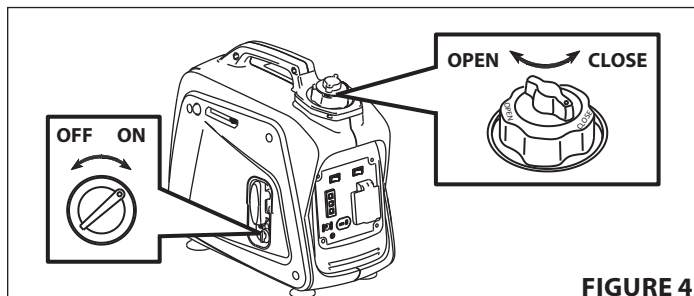

FIGURE 4
1. Turn the fuel tank cap air vent to the **OPEN** position. **SEE FIGURE 4**
2. Turn the fuel valve to the **ON** position. **SEE FIGURE 4**
3. Turn the fuel valve to the **OFF** position. **SEE FIGURE 4**
4. Turn the fuel tank cap air vent counterclockwise to the **CLOSED** position. **SEE FIGURE 4**